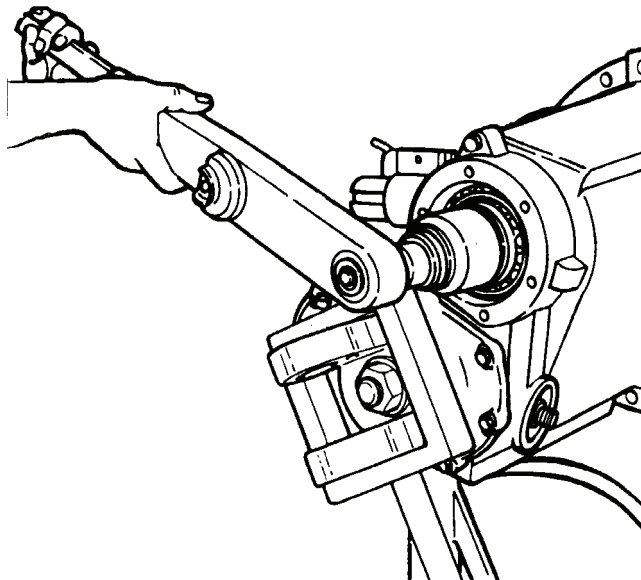

Figure 10. Drive Pinion Nut.
- (3) Use the correct holding tool to hold the input yoke in a stationary position. Loosen, **BUT DO NOT REMOVE**, the nut on the drive pinion. Figure 10.